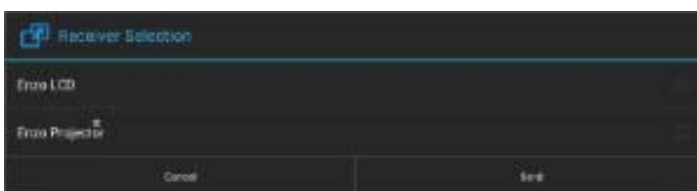

FIG. 149 G5 panel - Receiver Selection
1. If there are multiple Enzo units configured to use Content Sharing with the G5 panel, then a list of Enzo units is displayed to select from, in the *Receiver Selection* window (FIG. 149).